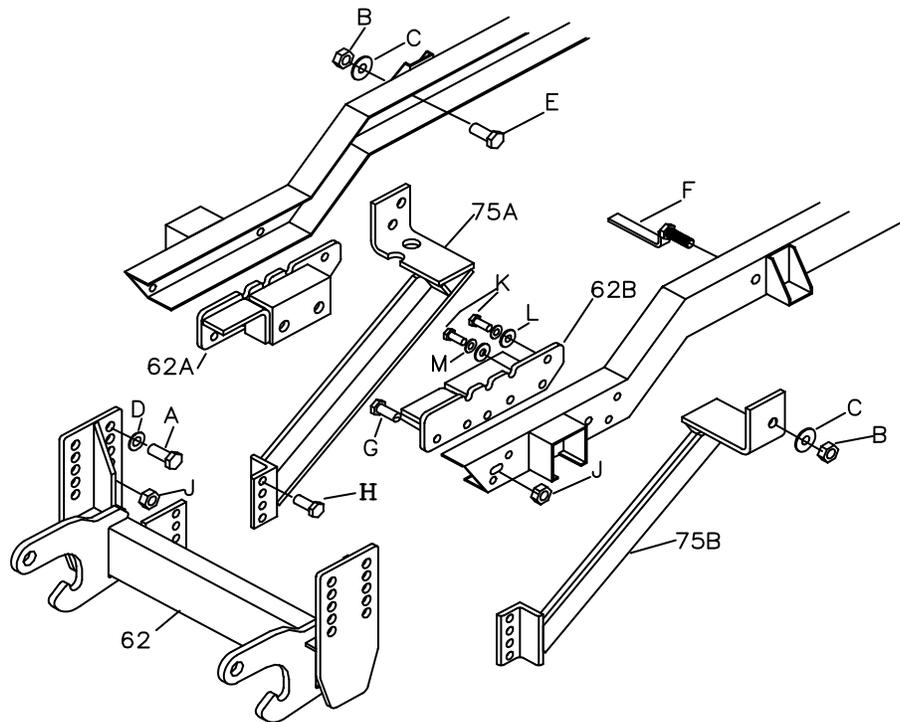

Figure 1
1. Remove the two tow Hooks, if present. Remove the (2) $\frac{7}{16}$ " – 14 bolts securing the diagonal bumper brace to the frame. Position the PUSH BEAM SUPPORT PLATES (Ref. 62A and 62B, Fig. 1) to the front frame rails of the truck. Use the $\frac{1}{2}$ " – 13 x 3" hex head bolts, $\frac{1}{2}$ " flat washers, and $\frac{1}{2}$ " – 13 hex head self-locking nuts to bolt the PUSH BEAM SUPPORT PLATES and the Tow Hooks in place in front. The existing top bolt in each Tow Hook is re-used. The Tow Hooks must be swapped left to right & right to left on the truck. Use the $\frac{7}{16}$ " – 14 x 1 – $\frac{3}{4}$ " hex head bolts, $\frac{7}{16}$ " flat washers and $\frac{7}{16}$ " lock washers to bolt the PUSH BEAM SUPPORT PLATES in place at the back. Fasteners should only be finger tight.
2. Bolt the PUSH BEAM (Ref. 62, Fig. 1) in place using the $\frac{5}{8}$ " – 1 x 1- $\frac{1}{2}$ " hex head bolts provided. Fasteners should only be finger tight.
3. Position the ANGLE BRACKET (RH) (Ref. 75A, Fig. 1) as shown in Figure 1 and attach to the PUSH BEAM ASSEMBLY (Ref. 62, Fig. 1) using two 12" – 13 x 1- $\frac{1}{2}$ " hex head bolts and $\frac{1}{2}$ " hex head self-locking nuts. After making sure the PUSH BEAM ASSEMBLY is level, raise the frame mount end of the ANGLE BRACKET (RH) up to the frame. Mark and drill an 11/16" hole into the frame, then attach the ANGLE BRACKET (RH) to the frame using one $\frac{5}{8}$ " – 11 x 1- $\frac{1}{2}$ " hex head bolt, $\frac{5}{8}$ " flat washer, and $\frac{5}{8}$ " – 11 hex head self locking nuts.
4. Position and secure the ANGLE BRACKET (LH) (Ref. 75B, Fig. 1) in the same manner as the ANGLE BRACKET (RH). Use the 5/8" – 11 x 2" BOLT BAR (Ref. F, Fig. 1) to insert inside the frame crossmember.